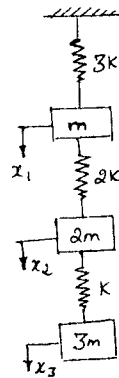

Fig Q 8
- 8 Explain Stodola's method. And determine fundamental mode of vibration and its natural frequency of spring mass system shown in Fig Q 8, by same method. (20 Marks)